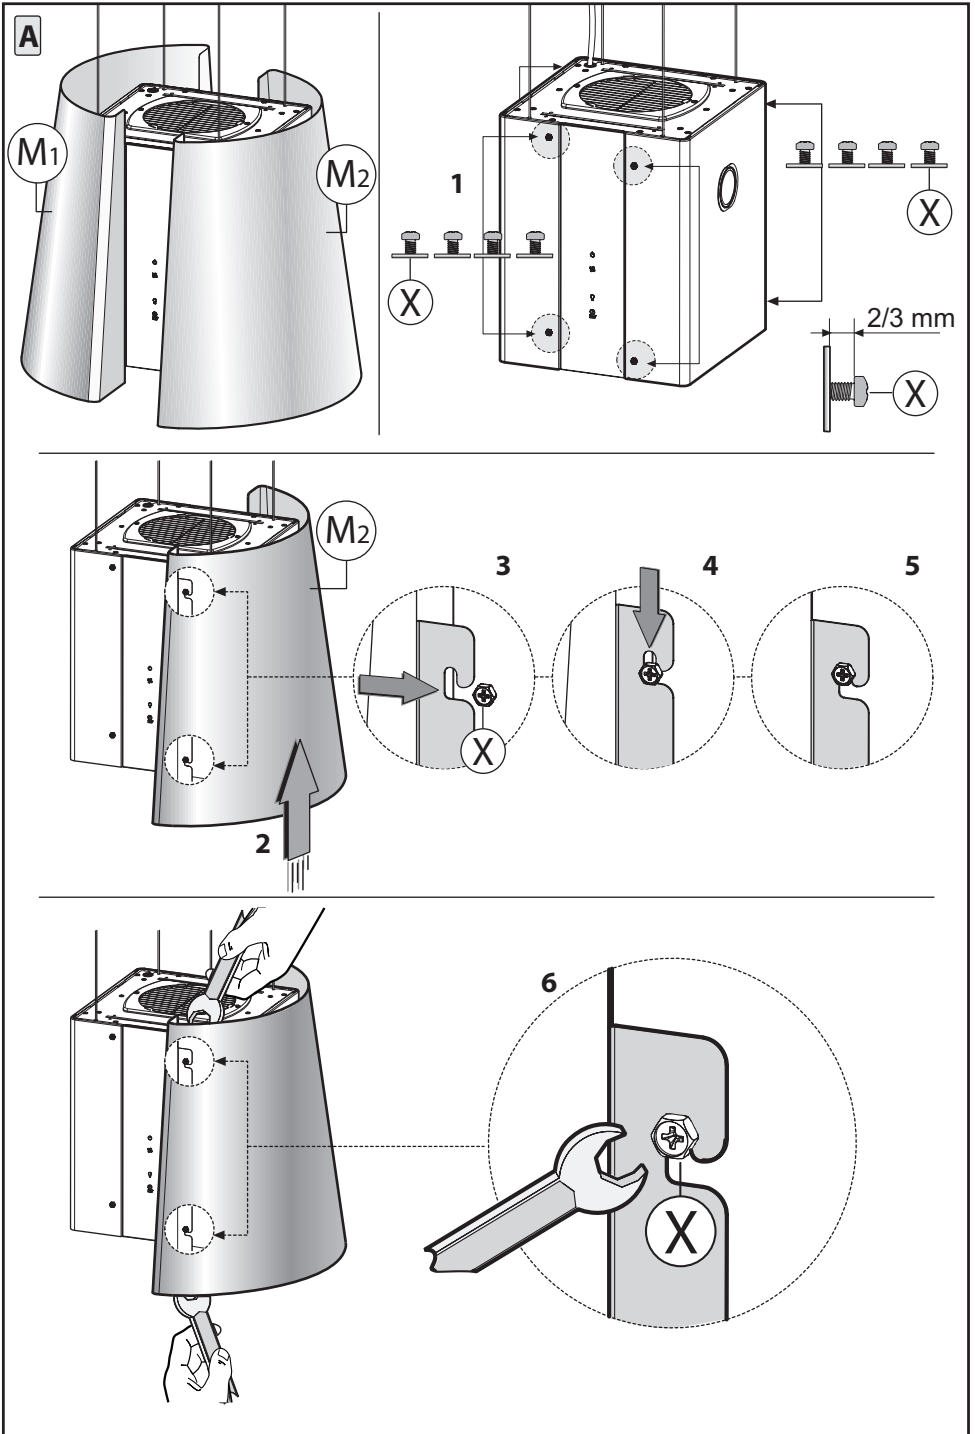

Fig.10
- If **your model is like the one shown in figure 10** it is necessary to fasten the decorative cover **M1 - M2**.
- In correspondence with the hood body there are 4 (right)+ 4 (left) screws **X** that are not completely tightened figure 10 - phase 1, take the decorative cover **M2** and slide it down until it clamps onto the slot phase 2-3-4-5.